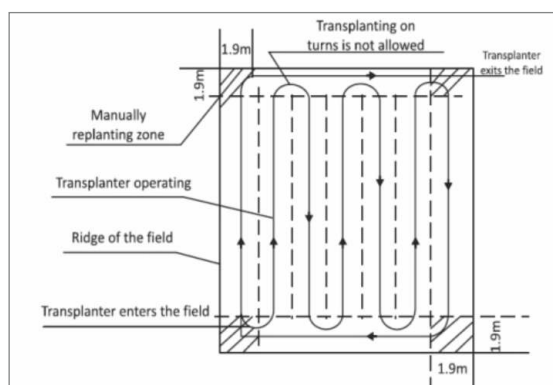

Figure 1 Sketch showing the movement of transplanter
- Start transplanting by leaving the space equal to the width of the transplanter at three sides of the field near the bunds. This helps in avoiding any damage to the already transplanted field. Follow the path as indicated by the arrows in Figure1 for transplanting.